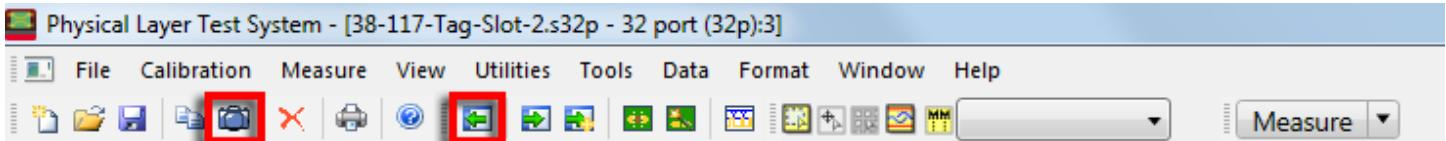

Figure 13 - PLTS toolbar export
- Press Export button on toolbar to save .s32p file. This button is shown in the right red box in Figure 13.
- Press Export Bitmap button on toolbar to save screenshot of the graphs. This button is shown in the left red box in Figure 13.